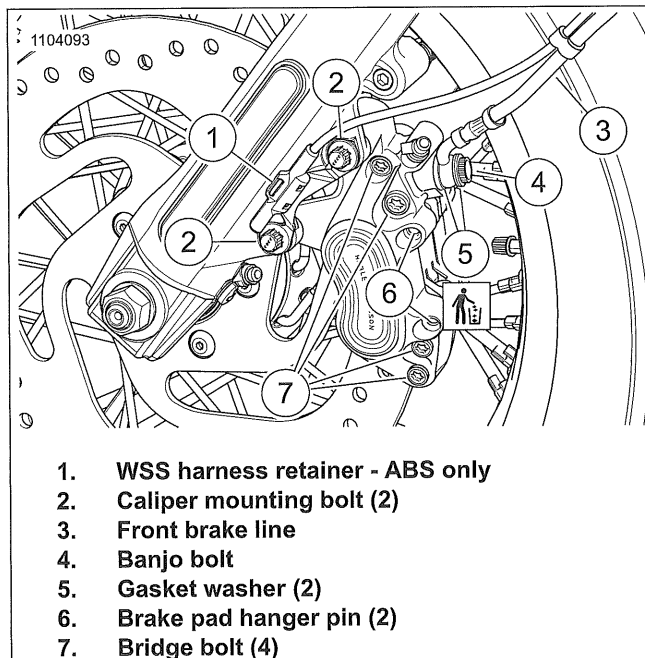

Figure 3-39. Front Brake Caliper: (Typical)
1. See Figure 3-39. Remove mounting bolts (2). Slide caliper rearward, and position out-of-way.
1. See Figure 3-39. Loosen brake pad hanger pins (6).
2. Remove mounting bolts (2). Slide caliper rearward, and position out-of-way.
2. Remove banjo bolt (4).
- b. Remove and discard gasket washers (5).
3. Loosen bridge bolts (7).
4. Remove mounting bolts (2). Slide caliper rearward, and remove front brake caliper.
1. See Figure 3-39. Install caliper.
2. Install mounting bolts (2). Tighten.